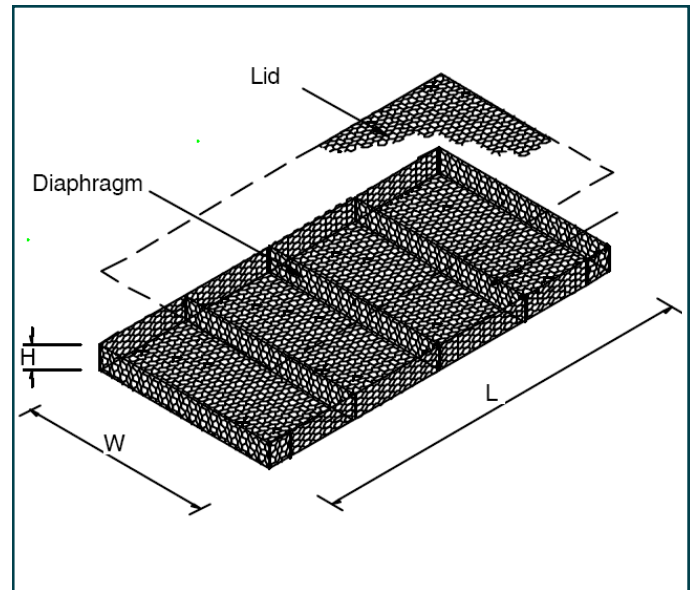

Figure 1
The Reno mattress is a structure made of hexagonal double twisted wire mesh, with mechanical characteristics higher than the ones suggested from EN 10223-3 (Figs. 1, 2). Reno mattresses are filled with stones at the project site to form flexible and permeable, monolithic structures such as river bank protection and channel linings for erosion control.
- size of units (length x width x height, see Fig.1),